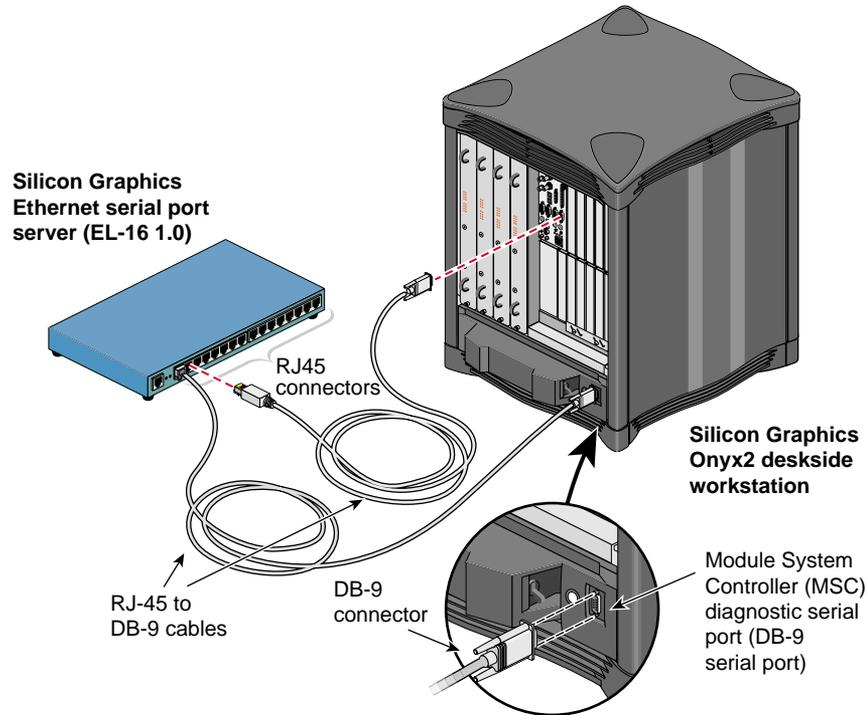

Figure 2-40 Connecting the Serial Port Server to the MSC Serial Port Connector
6. Connect the RJ-45 end of the second RJ-45 to DB-9 cable to one of the RJ-45 serial jacks on the Silicon Graphics EL serial port server. Connect the DB-9 connector to the DB-9 jack on the Silicon Graphics Onyx2 deskside workstation Module System Controller (MSC) diagnostic serial port. See Figure 2-40.